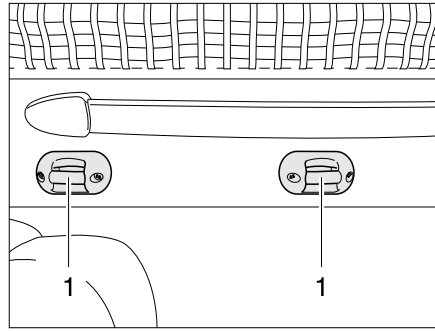

Fig. 173 Access ladder holder
- Hook the access ladder to the pull-down bed by attaching both brackets into the U-bolts (Fig. 173,1).